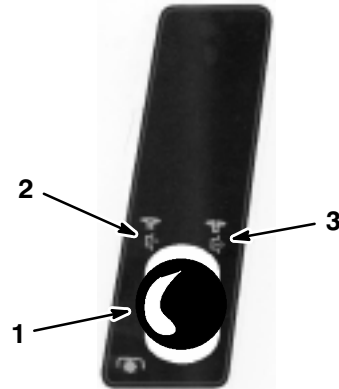

Figure 3
2. Pull the blade control (PTO) out to "ENGAGED" (Fig. 3).
2. Push the blade control (PTO) in to "DISENGAGED" (Fig. 3).